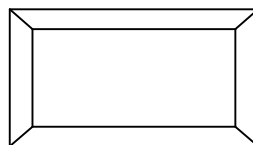

Figure 3
(2) Normalized output for complicated drawings are shown in Figure 3 below
Figure 3 is not so complicated, however, according to our observation, many users will draw the figure in several sections instead of drawing it continuously, therefore, the software will create multiple effects of output (this is relevant to the order of drawing of different users), however, may be none of the effects is what you expect.